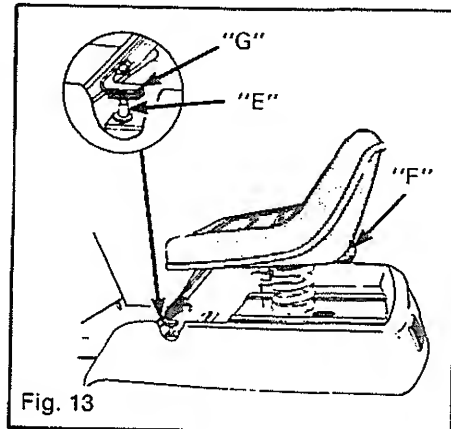

Fig. 13
2. The second switch is below the seat (inside the seat on later models), (E), Figure 13. This switch should be activated when back edge of seat support (F) is depressed 5/8" (16 mm). If not, loosen bracket (G) and move to correct location. The switch can also be activated by raising the seat and lifting the interlock button UP.